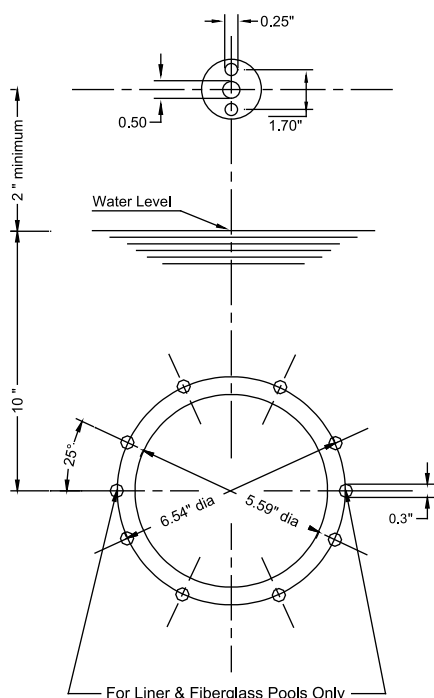

Figure 10
2. Mount the housing (*part #7*) and one gasket (*part #12*) on the outside of the pool wall using two (2) screws 14 x 1" (*part #27*). Install the screws from the inside of the pool wall through the holes drilled at 3 and 9 o'clock positions. (See *Figure 10 & 11*)
3. Install the clamping ring (*part #3*) and the gasket (*part #12*) on the inside of the pool wall using eight (8) screws (*part # 9/2, 9/3, 9/4, or 9/5*) Screw lengths vary depending on the installation.
4. For the air regulator assembly, one 1/2" hole must be provided, preferably along the vertical axis, approximately 4" (*or minimum 2"*) **ABOVE** the water line. (See *Figure 10 & 11*). Using the air regulator assembly gasket (*part #21*), mark and drill two 1/4" mounting holes. (See *Figure 10*) Use two flat head 1/4 - 20 machines screws (*part #18*) and two 1/4-20 nuts (*part #19*) to mount the air regulator. (*NOTE: The flat head on the inside of the pool wall and the nut on the outside of the pool wall.*)
**For Steel Walled Pools:** An optional butterfly gasket (*part #12A*) maybe purchased to replace the two (2) gaskets (*part #12*). Increase the jet housing hole from 5.59" to 5.75" for installation. (See *Figure 10*)